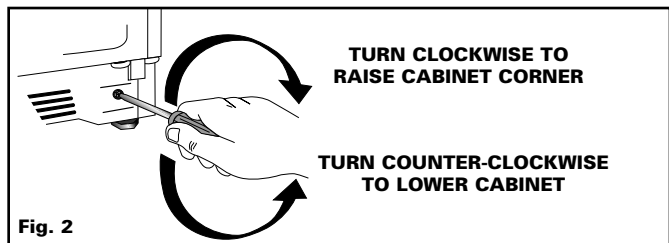

Fig. 2
- Adjust the wheels with a screwdriver (see fig. 2).